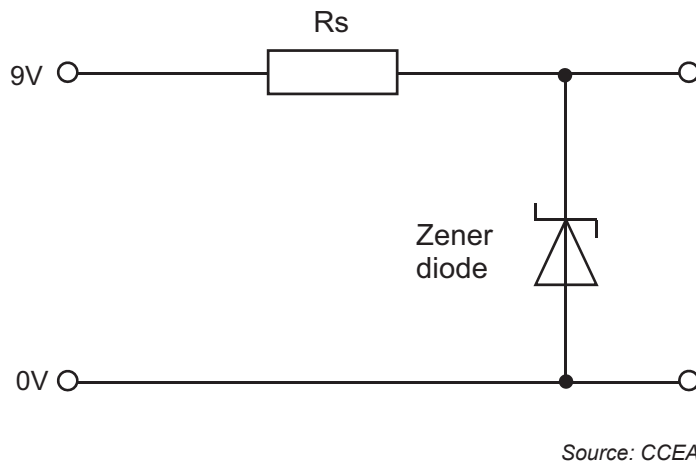

Fig. 9
- (d) **Fig. 9** shows a Zener diode which is to be used to provide a regulated 5 volt supply for a slotted optical switch circuit.
- (ii) Calculate the value required for the series resistor for the Zener diode based power supply shown in **Fig. 9** if the maximum Zener diode current is 10mA.